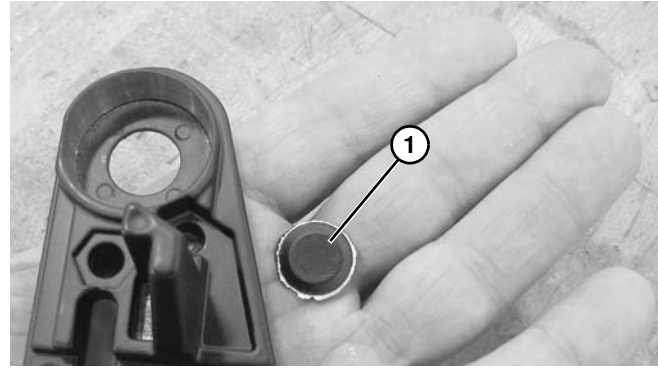

**Figure 92**
2. Set tail plate (**Figure 92, item 1**) flat side down over washer (**Figure 92, item 2**) or hole in workbench that has a minimum diameter of 5/8".